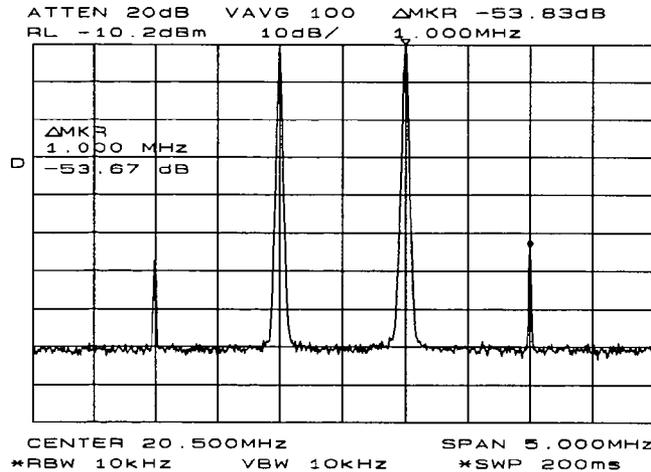

**Figure 3-9. Signal Peak Set to Reference Level**
- For greatest measurement accuracy, position the peaks of the source signals at the reference level. The spectrum analyzer function **MARKER -> REF LVL** allows you to set the reference level using a marker. First, place a marker on the source signal of highest amplitude by pressing **PEAK SEARCH**. Then set the reference level to this value by pressing **MKR ->**, and then **MARKER -> REF LVL**. Figure 3-9 illustrates the resulting display.